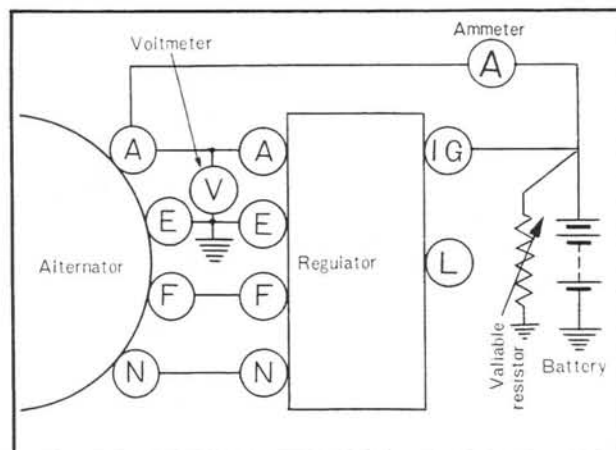

Fig. 5-15 Checking of constant voltage relay
To check, use an almost fully charged battery and connect a voltmeter between the (A) and (E) terminals of the regulator, as shown in Fig. 5-15. Then, hold the alternator revolution to 4,000 rpm (engine revolution 1,800 rpm) and take a reading of